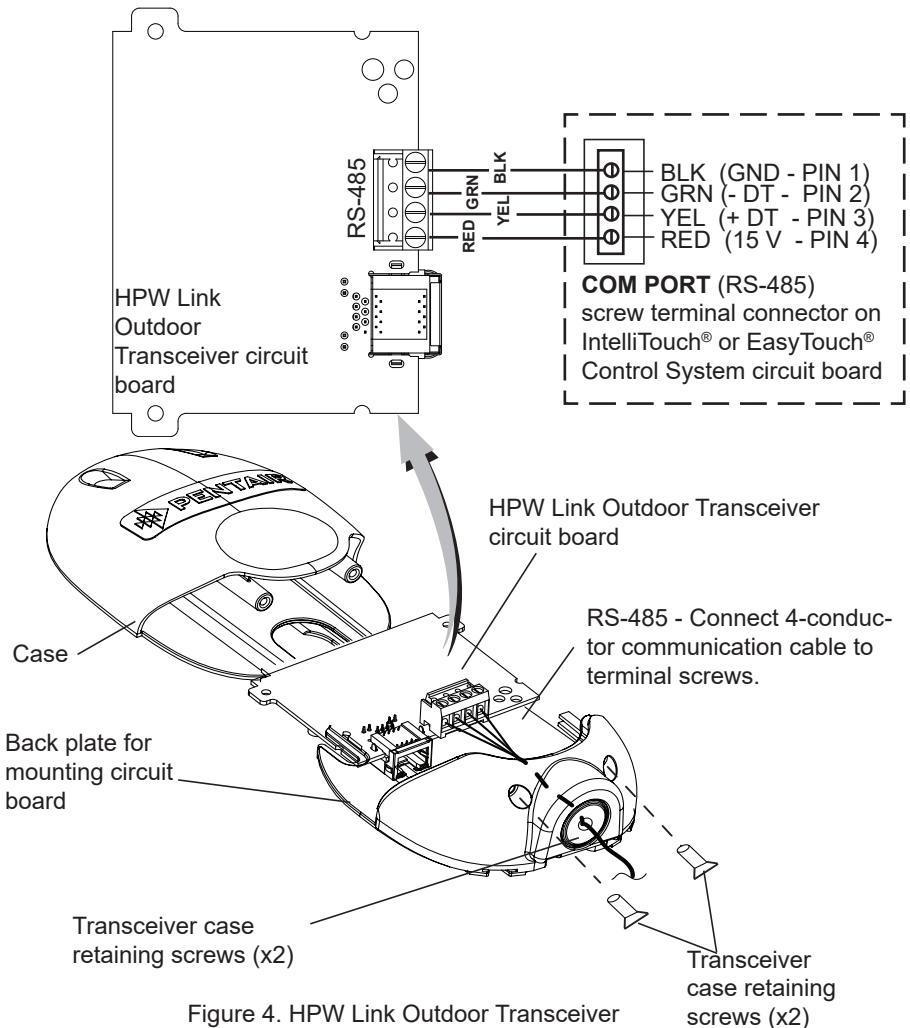

Figure 4. HPW Link Outdoor Transceiver
2. Connect the four conductor connection cable to the screw terminal on the HPW Link Outdoor Transceiver circuit board as shown below in Figure 4.